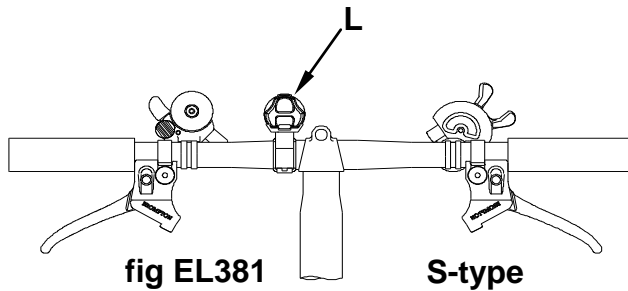

fig EL381
**S-type (fig EL381)**, immediately to the left of the centre-lug, spaced off about 1-2mm from it.